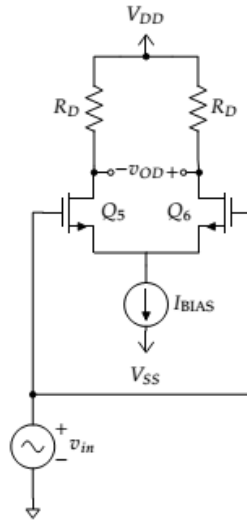

Figure 5.12: Differential amplifier connected with a common mode input.
6. Configure the function generator to have zero offset and $v_{in} = 250$ mV peak-to-peak amplitude, then connect it to the v_{in}^+ input. Short the v_{in}^+ and v_{in}^- pins together. This is to ensure that all the applied voltage is common mode and is demonstrated in figure 5.12.
- Compare the nonideal diffamp behavior in equation (5.4) to the ideal behavior in equation (5.18). What is the expected gain of the circuit in figure 5.12 due to a common mode input?